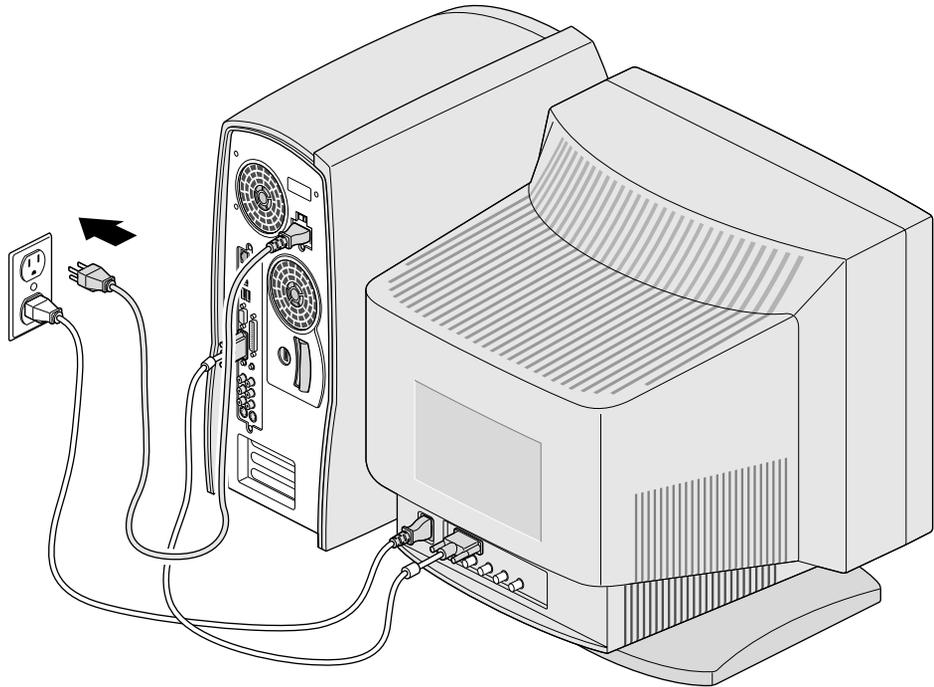

Figure 1-7 Attaching the Power Cord to the System
6. Attach the power cord to the back of the system and to a power outlet, as shown in Figure 1-7.